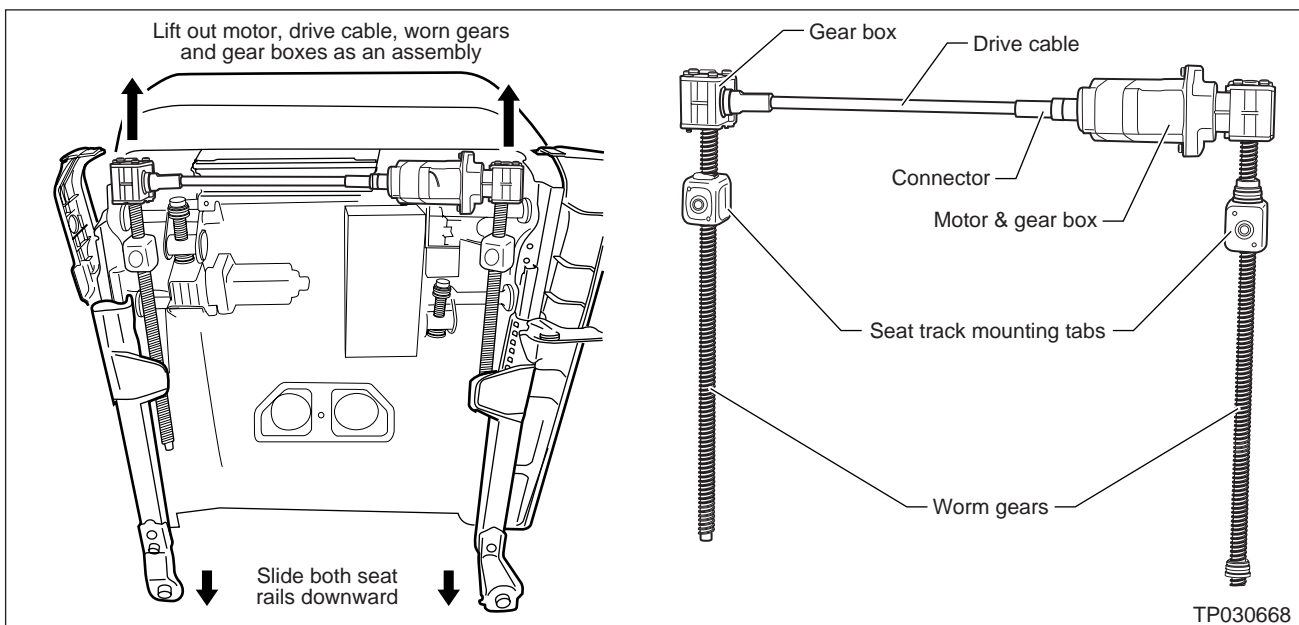

Figure 7
16. Slide both sides of the seat rail back to the rear position (towards the seat back) and remove the worm gears, drive cable, motor, and gear boxes, all as one unit, from the seat adjuster assembly (see Figure 7).